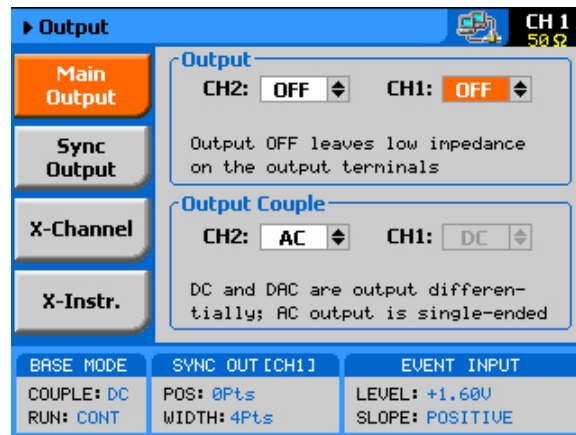

Figure 3-6, Selecting an Output Couple Path
You can modify the output couple path (see Figure 3-6) using the following procedure. Note that each channel can be programmed to a different setting.
1. Press the Output button in the Control group buttons. Observe the Output display, as appears in Figure 3-6.
- 1. Change the output couple path to AC, as shown in Figure 3-6.